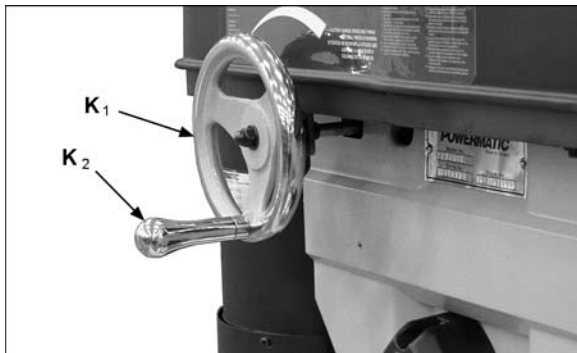

Figure 9
14. Install handwheel (K1, Figure 9) on speed change shaft by aligning slot in handwheel with spring pin on shaft. Tighten with washer and crown nut.
15. Install handle (K2, Figure 9) into threaded hole in handwheel. Tighten by using a wrench on the flat.
With the drill press running, rotate handwheel (shown in Figure 9) until desired speed is displayed on LED readout at front of head. Speed range is 250 to 3000 RPM.